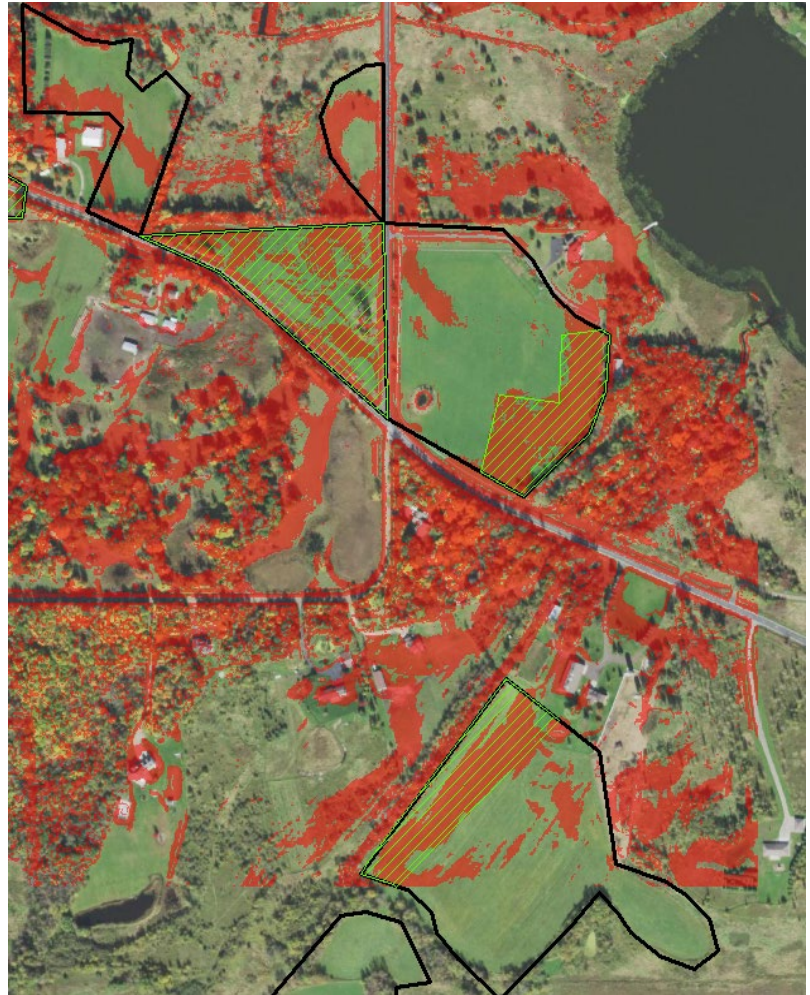

Figure 7. Steep Slope Fields
- Draw a polygon around the fields (or portions of fields) with more than 33% of the total field having slopes over 6% (Figure 7, next page).